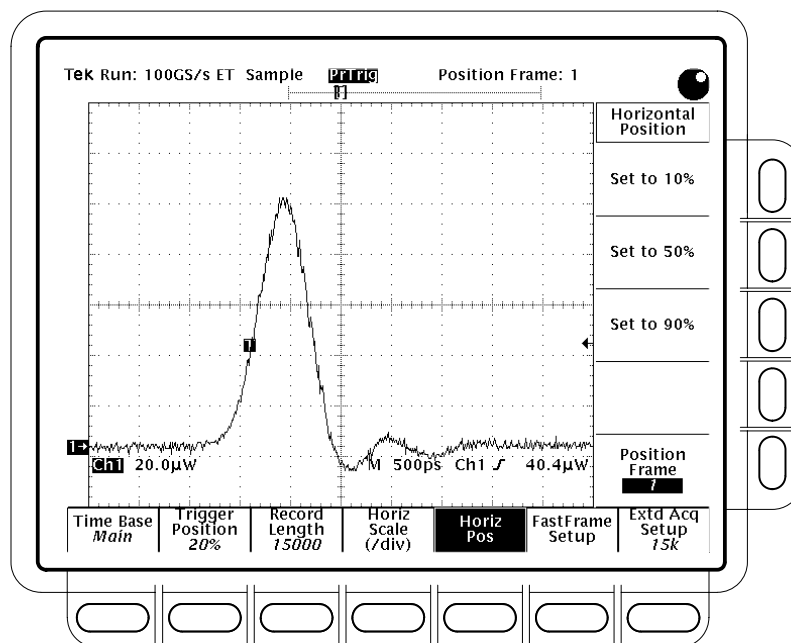

Figure 4–44: Optical impulse of Ch1 input from OA5022 Optical Attenuator (OIG501 / OIG502 fed into optical attenuator in Step 1)
**1. Install the test hookup and preset the instrument controls:****Figure 4–43: Reference-receiver performance-verification set up****a. Initialize the oscilloscope:**
- Connect the optical probe to CH 1 of the oscilloscope under test (see Figure 4–43).
- Adjust the **HORIZONTAL POSITION** to move the 20% trigger point onto the display (see Figure 4–44).
**NOTE.** For the Bessel Thompson (BT) filter to be active, the VERTICAL MENU deskew must be set to zero on all four channels. Also, the ACQUIRE MENU Acquisition Mode must be Sample. If you did the Factory Setup specified in Step 1a, you selected these modes.
- If checking a reference receiver, verify that RR is displayed to the right of the vertical scale factor (see Figure 4–45).
3. Turn on an FFT of the optical impulse [the Impulse Response (or Frequency Response) of the P670xB and oscilloscope system] (Refer to Figure 4–46):
5. Observe the desired response characteristics using the vertical paired cursors (see figures 4–45 and 4–46):
- e. Position the other cursor at the bit rate (the frequency closest to the bit rate) of the mask that is turned on (see Table 4–10 and Figure 4–45).